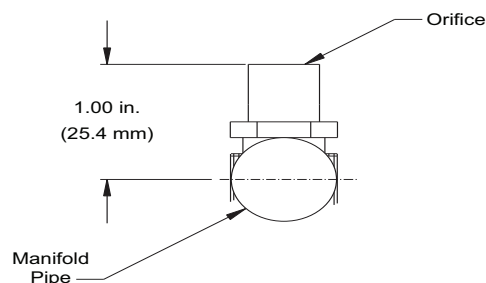

Fig. 51 — Orifice Projection
Refer to Fig. 51 for maximum projection dimension for orifice face to manifold tube.
5. If factory orifice has been removed, check that each orifice is tight at its threads into the manifold pipe and that orifice projection does not exceed maximum valve. See Fig. 51.
11. Turn off unit, remove pressure manometer and replace the manifold pressure tap plug. (See Fig. 51.)
Ensure each replacement orifice is tight as its threads into the manifold pipe and the orifice projection does not exceed maximum value. See Fig. 51.